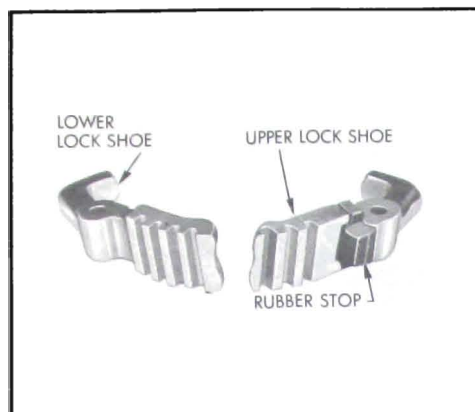

Figure 8-82—Lock Shoes
1. Drive lock shoe pins out of actuator and remove shoes and springs. The upper shoe has a rubber stop on it. See Figure 8-82.